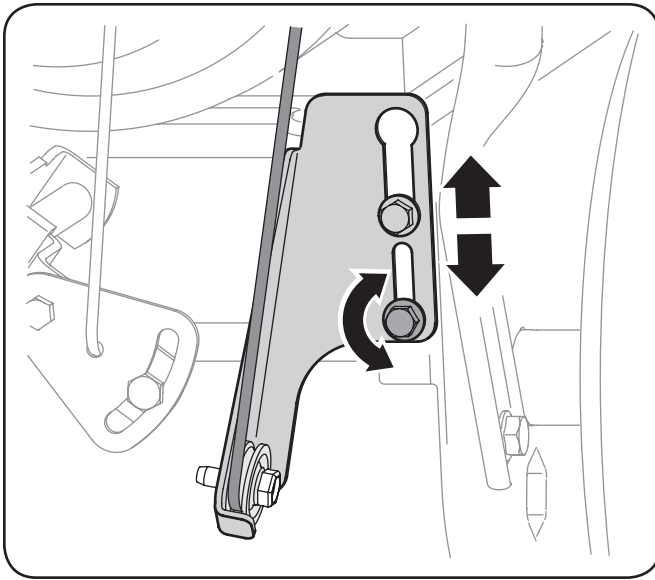

Figure 6-6
1. Loosen the lower hex screw on the drive cable bracket. See Fig. 6-6.